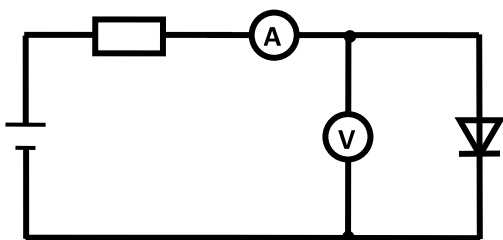

Fig. 5. Alternative Circuit for the measurement of the characteristic current voltage curve for the diode (in direction of flow)
- Set up the circuit as shown in Fig. 5. Measure the characteristic current voltage curve for the diode along and opposite to the direction of flow. Make sure to record sufficient data points in regions where the shape of the characteristic curve changes strongly.
In the circuit shown in Fig. 5 the voltmeter displays directly the voltage drop over the diode. On the other hand, the ammeter shows the amperage of the current that flows through the diode and the voltmeter. Therefore the value of the displayed amperage is approximately the amperage of the current that flows through the diode only under certain conditions.